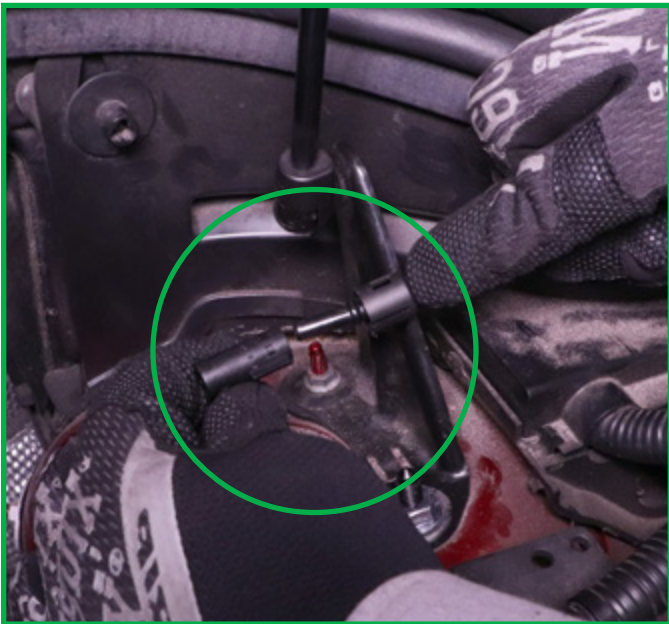

FIGURE 39
10. Reconnect the air line to the air strut. (Figures 39, 40)